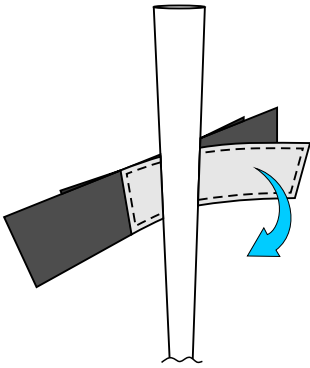

Fig 3.2A
1. Position the white fabric of the strap against the rail. Wrap the strap around the rail (see Fig 3.2A).